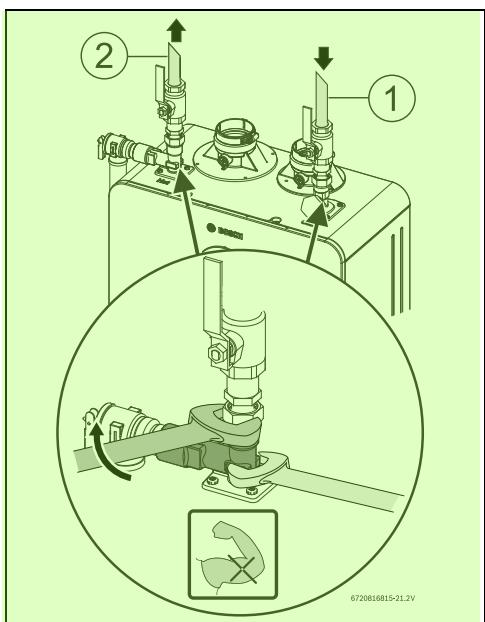

Fig. 28 5
- Tighten all water connections with the support of a wrench, see Fig. 28.